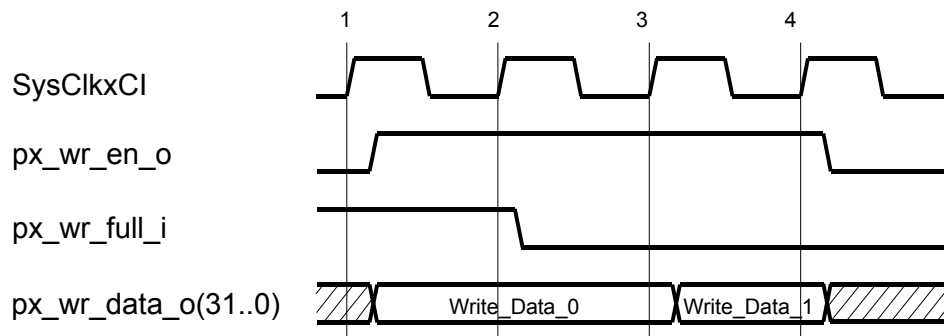

Figure 10: MemoryBus Write Cycle
Figure 10 shows two successive data write cycles being performed on the MemoryBus Write Port. At the rising edge of **SysClkxCI** (1) the Custom Module asserts **px_wr_en_o** to '1' and at the same time presents 32-bit of write data on **px_wr_data_i(31..0)**. At clock edge (2) the Custom Module samples **px_wr_full_i** = '1' which means that the Write Data Buffer in the MCB is currently full and no write data transfers can be made at this time. The Custom Module must therefore hold **px_wr_en_o** = '1' and keep the write data on **px_wr_data_i(31..0)** valid. At clock edge (2) the MCB de-asserts **px_wr_full_i** to '0' which indicates that the MCB is now ready to capture the write data on the next rising clock edge (3). At clock edge (3) the Custom Module indicates that it wants to perform a second write data transfer by keeping the **px_wr_en_o** signal high and presenting new write data on **px_wr_data_i(31..0)**. Since **px_wr_full_i** is still '0' at clock edge (4) the second write data transfer is taking place. Once all write data transfers have for a given write burst cycle have been completed the Custom Module must issue a corresponding Write Command on the
MemoryBus Command Port. Note that the Write Command is not shown in Figure 10.